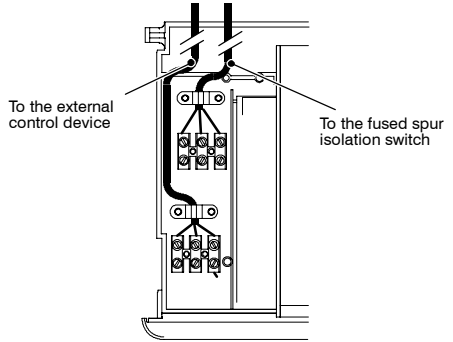

Fig. 6.18
- 9 Route the electrical supply flexible cord and the external control flexible cord as illustrated in Fig. 6.18.